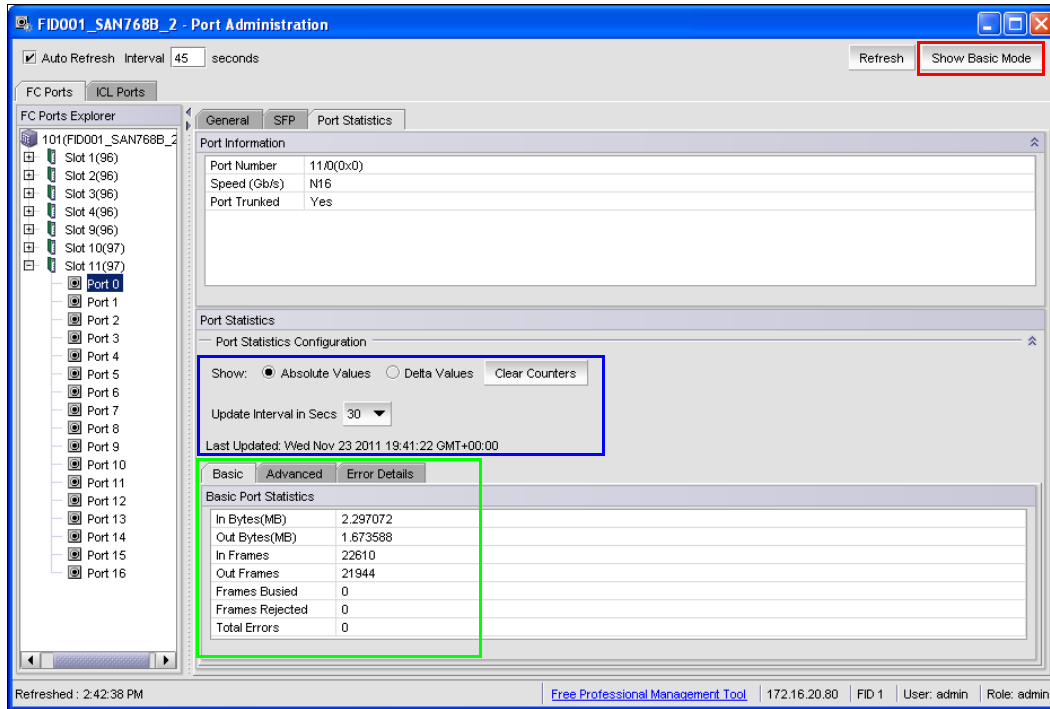

Figure 10-13 Port Administration - “Advanced mode” Detailed Port information
Advanced view mode on the panel. To change the panel view mode, use the button at the top right of the panel, see the red box in Figure 10-13.
- ▶ Port Statistics Configuration: this section allows us to configure the data statistics view, Absolute values (accumulated values) and Delta values (last 30 seconds, configured on Update Interval In Secs field). See blue box in Figure 10-13.
- ▶ Basic/Advanced/Error Details tabs: port statistics information. See the green box in Figure 10-13.
**Note:** Use Delta view to check the last Update Interval seconds of port statistics. In Figure 10-13 on page 369 is the last 30 seconds. This option helps you with problem determination to be able to see the evolution of the errors.